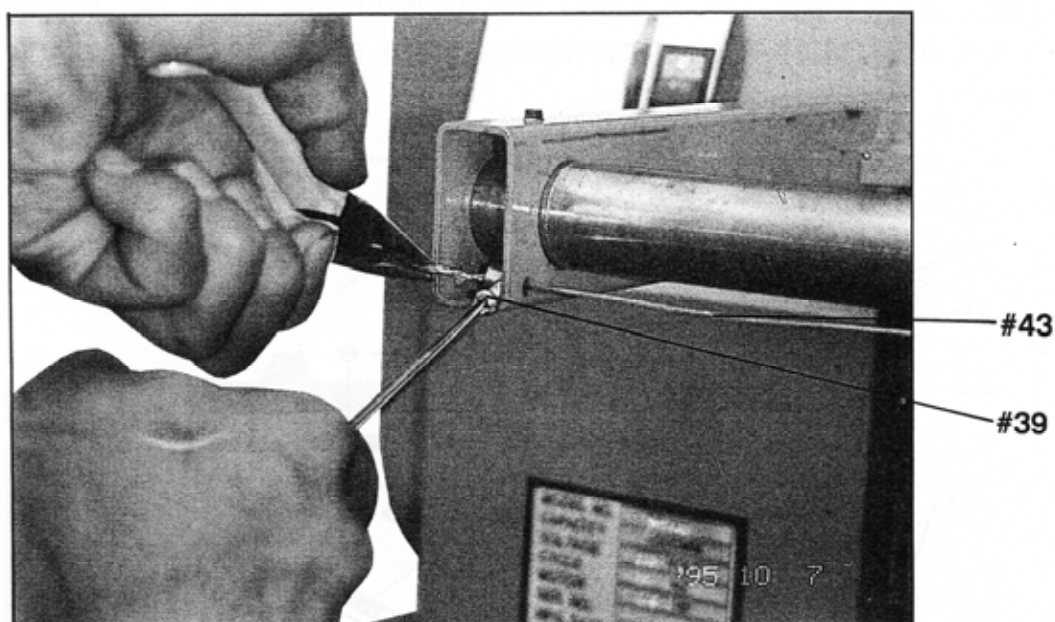

FIG. 13
3. REFER TO FIG. 13, LOOSEN BOLT (#39), THEN PINCH THE WIRE (#43) AND PULL IT WITH PLIER, AND THEN TIGHTEN THE BOLT (#39).